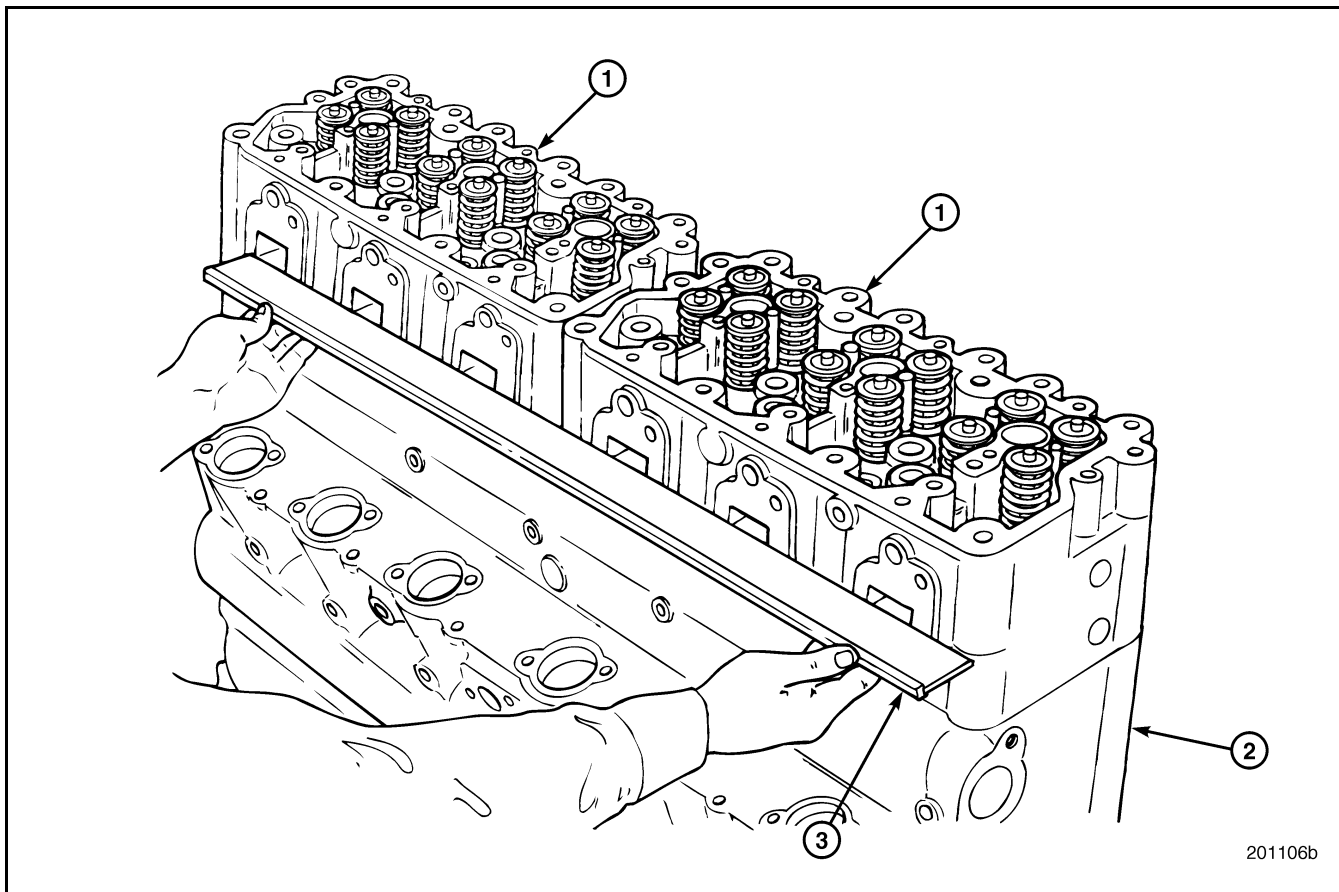

Figure 276 — Cylinder Head Alignment
6. Check the alignment of the cylinder heads by placing a straightedge against the exhaust manifold mounting surfaces (Figure 276). Using a feeler gauge, measure any gaps between the straightedge and manifold mounting surfaces. The heads should be in alignment within 0.005 inch (0.127 mm). If not, reposition the heads to achieve the specified alignment.